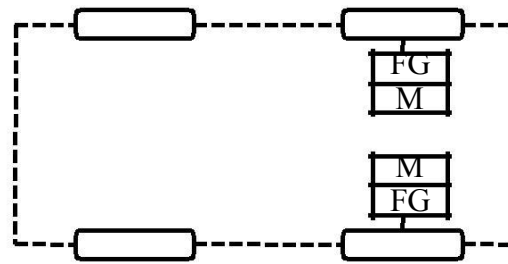

Figure 3d: EV configuration with two EM [1]
- In **Figure 3d** a dual motor configuration is shown. In this configuration the differential action of an EV when cornering can be electronically provided by two electric motors.